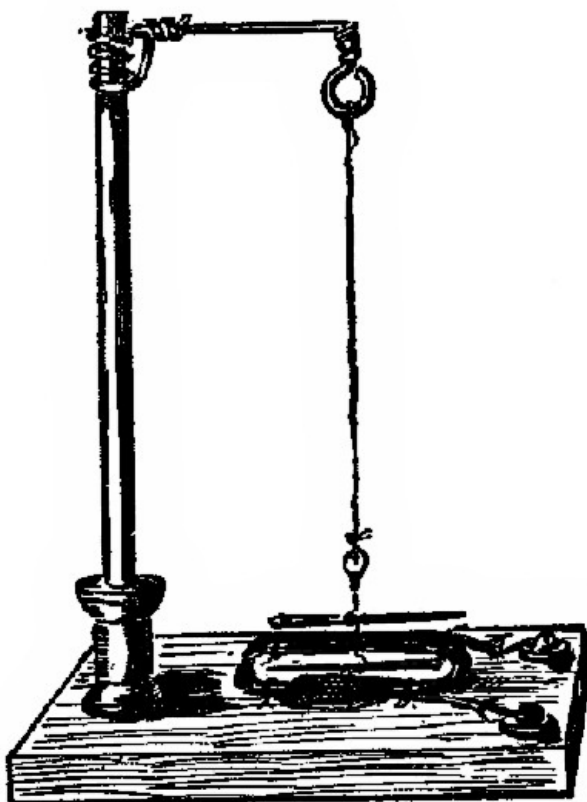
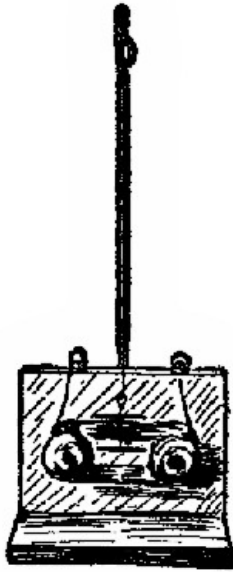

Fig. 86.
Fig. 87.
**172. Astatic Current Detector.** Fig. 86. The ordinary magnetic needle points to the north quite strongly. It is evident, then, that this pointing-power must be overcome by the magnetic field around the coil of wire, before the needle can be forced from the *N* and *S* line. *Very* weak currents will not visibly move the magnetic needle in the detectors so far described. You should remember that no action will take place unless the magnetic field around the magnetic needle is acted upon by that around the coil. In order to make an instrument that will be very sensitive, we must have strong fields about the needle and coil, and we must, at the same time, decrease the pointing-power of the needle. We can increase the strength of the field about the needle, and at the same time decrease its pointing-power by using an astatic needle. (See App. 69.) The arrangement shown in Fig. 86 is a very simple one, and it is quite sensitive.
**174. Astatic Current Detector.** Fig. 87. For a description of the wood-work, coil, etc., see App. 112; for the astatic needle see App. 69; for the method of supporting the needle see App. 113, Fig. 86. The top part of the coil is spread apart a little to allow the lower needle to be dropped through the opening thus made, and to allow the wire joining the two needles to be free to turn. The needles may be broken off a little, if necessary, or an opening may be cut into the vertical part of the frame, so that they can swing more freely. This detector will indicate quite feeble currents.